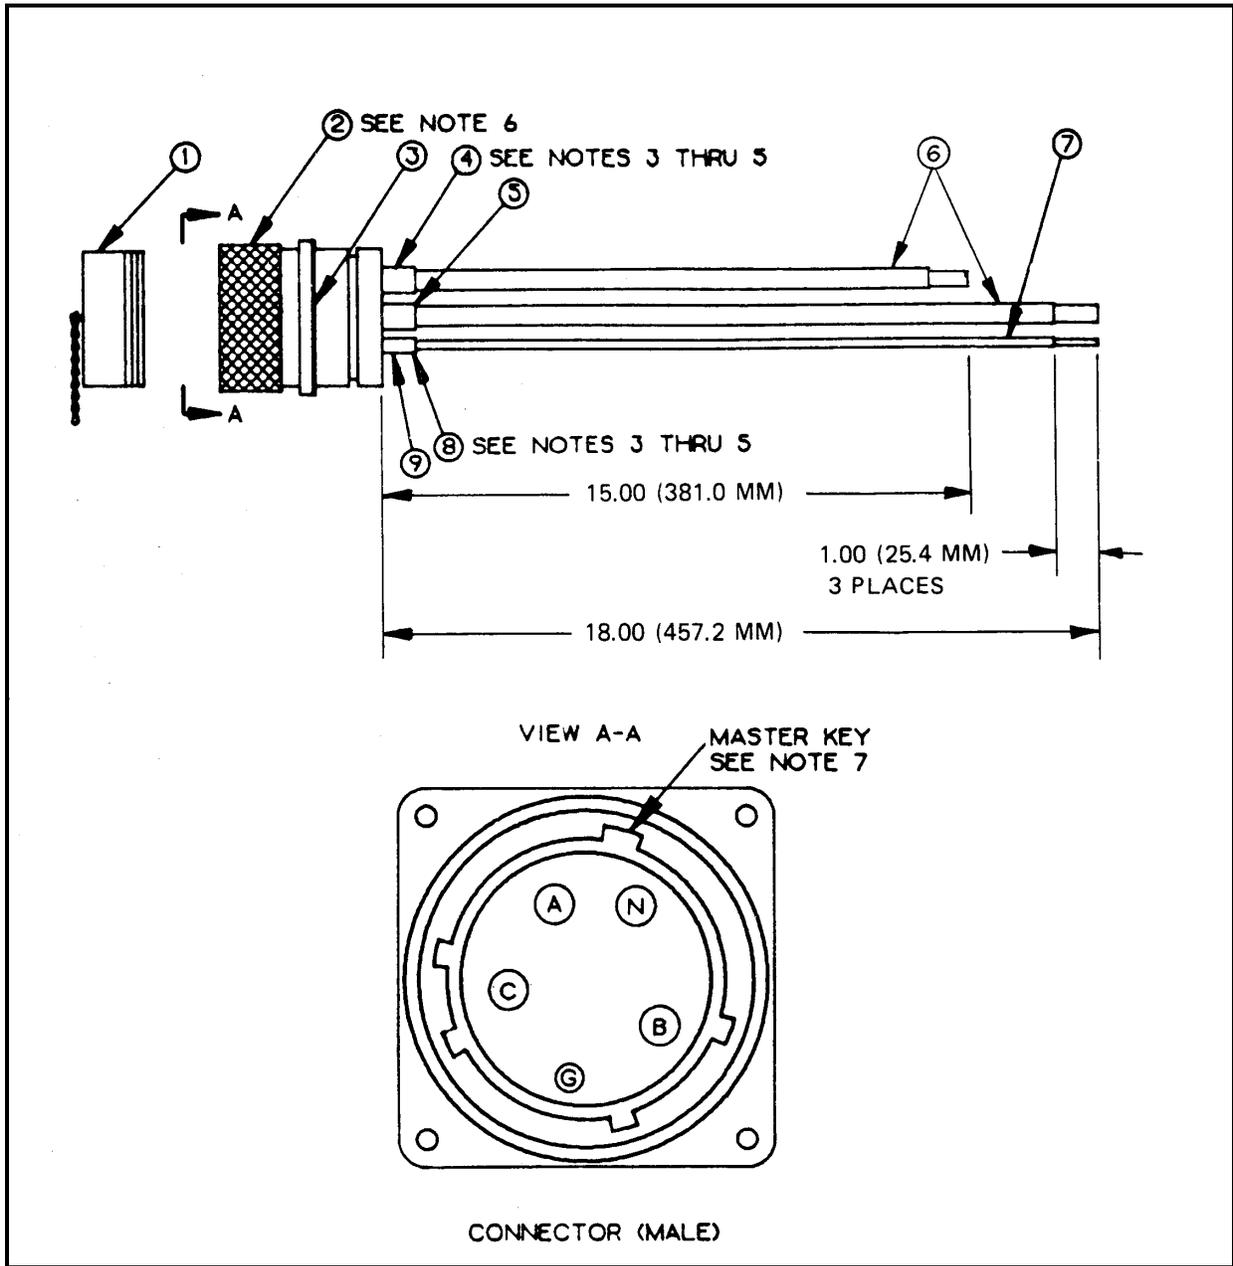

Figure F-29. M40 A/P (PDISE), 40-Amp, Input Connector Assembly, (J1)
Component Legend for Figure F-29
- c. Electrical connector (Figure F-29, Item 2) is furnished with the following: